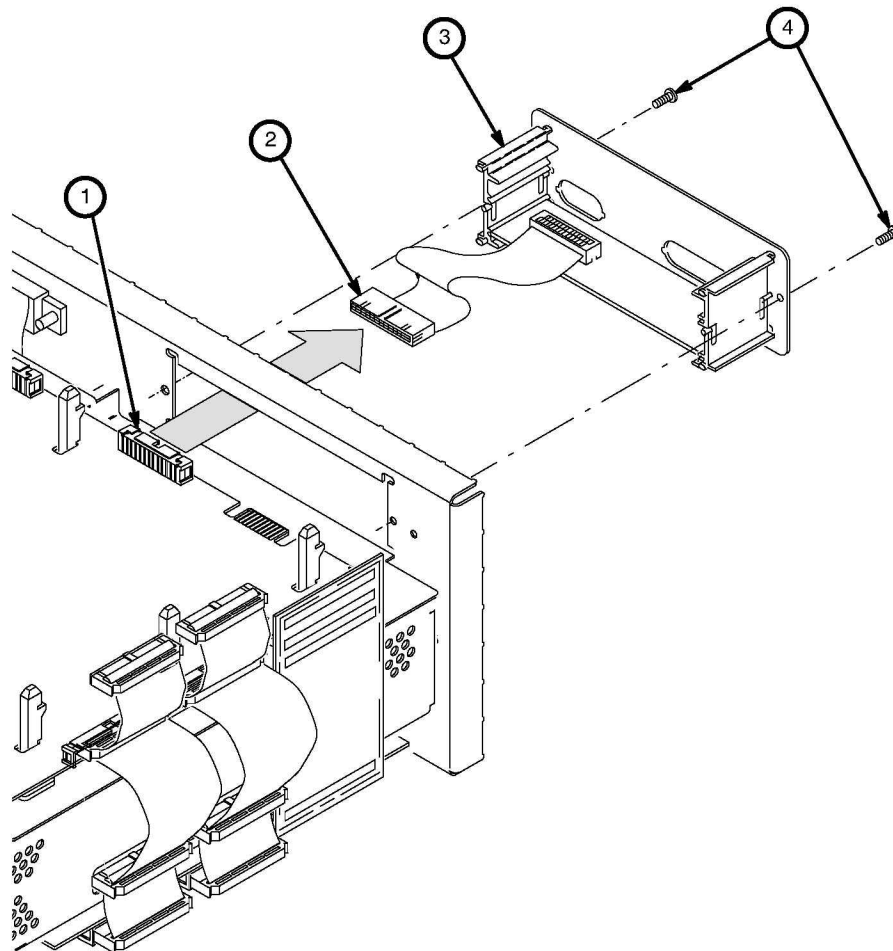

Figure 6-14: Remove Circuit Board Assembly From Oscilloscope
- a. Using a screwdriver with size T-20 Torx® tip, remove the two screws (number 4 in Figure 6-14) securing the rear plate of the circuit board assembly.